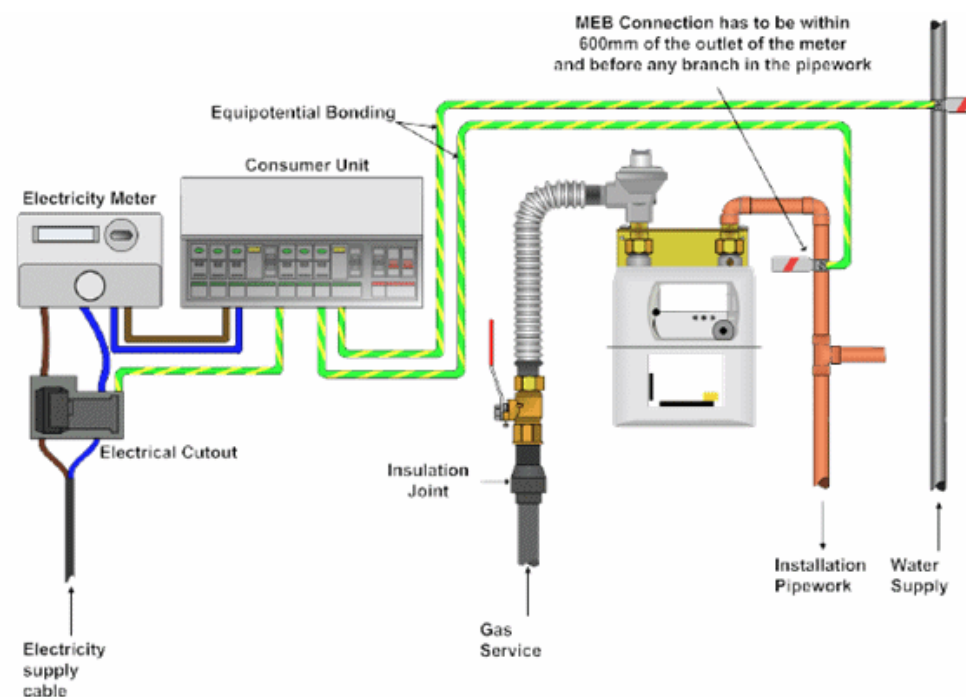

Figure O1 – Typical consumer earth bonding arrangement
- d) Check to ensure that there is equipotential bonding and that it is correctly fitted. See Figure O1. The purpose of equipotential